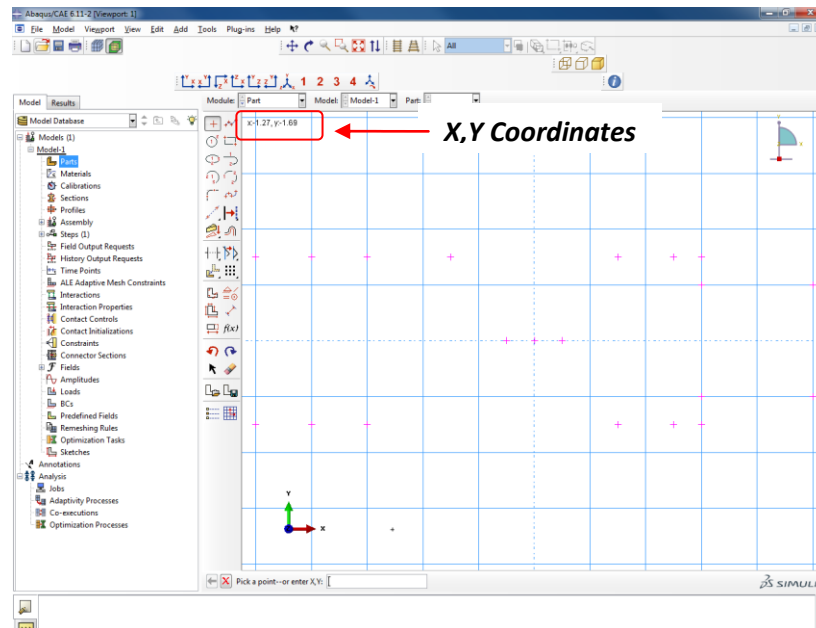

Figure 4. Geometry Points
- If all of the points have been entered correctly, the viewport should look similar to Figure 4. To auto scale the points to fit the screen hit **F6** on the computer keyboard.